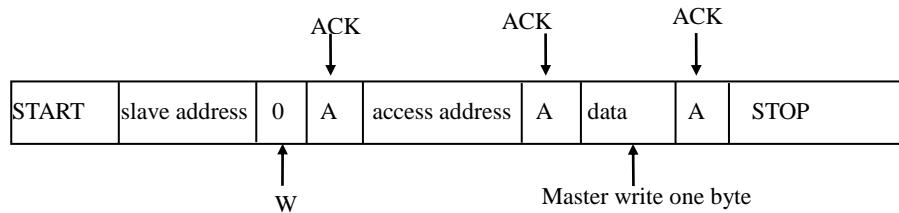

Figure 16-7 Master write one byte data to slave
As Figure 16-7 shown, when master send one byte to slave, first master send a start signal, and a slave address followed, the address has 7bits, then the 8th bit followed is data direction bit(R/W), 0 indicates master send data (write), 1 indicates master receive data (read), this time master wait slave give a acknowledge(A), when master received an acknowledge signal, send the address will be accessed, and wait slave give an acknowledge again, then master will send one byte data after received an acknowledge, and continuous to wait slave give an acknowledge, when master received the acknowledge, it will generate a stop signal, and end the transmission.
As Figure 16-7 shown, master read one byte data from slave, first master sends a START signal, then follows a slave address, the 8th bit of the address is 0, it is indicates a write command to slave, the master wait slave give an acknowledge(A) at this time, when master received an acknowledge signal, send the address will be accessed, and wait slave give an acknowledge again, then master will change the communication mode(master changed from transmitter to receiver, slave changed from receiver to transmitter) after received an acknowledgement. So master send a restart signal, then follows a slave address, the 8th bit is 1, it is indicates master has been set receive mode and start to receive data, this time master wait an acknowledgement from slave, when master received acknowledgement signal, then it can receive one byte data, when receive is completed, master send a no acknowledgement signal, it is indicates receive end, master generates a stop signal, and end the transmission.